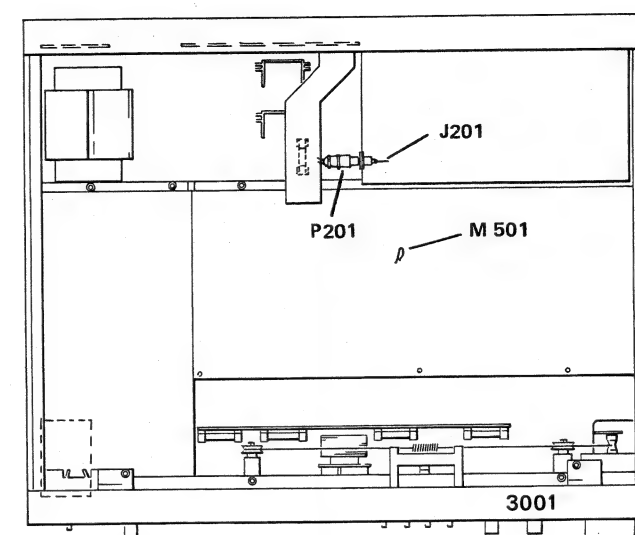

Figure 19 Test points
- Pull out signal plug P201 on the selectivity box (see figure 19).
- Connect signal generator to J201 (see figure 19).
- Connect an oscilloscope (a.c.-mode, 5 mV) to M501 on the decoder board (see figure 19).
- Put back the signal plug P201 on the selectivity box (see figure 19).